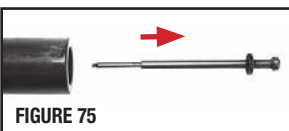

FIGURE 75
- Grasp the rear of the firing pin and remove it out of the rear of the bolt carrier (FIGURE 75).